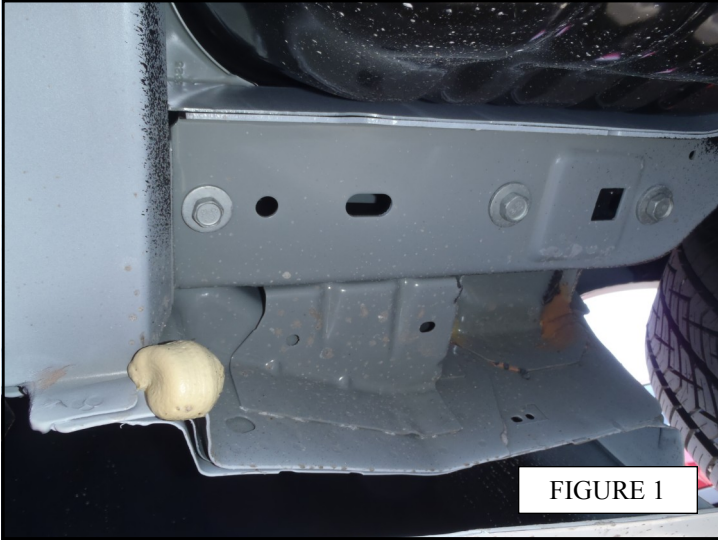

FIGURE 1
2. Starting at the driver side rear of the vehicle. Locate the factory M10 and M12 cap screws located under the driver side main uni-body channel. Remove using a 15mm socket & ratchet and an 18mm socket & ratchet. Do not discard as these will be used in the installation. FIGURE 1